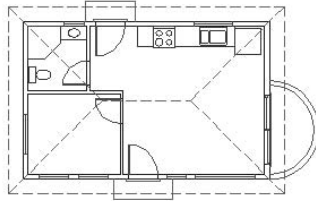

FIGURE 8.3 : The floor plan with the groundline
1. Check the status bar to make sure that Polar, Osnap, and Model are in the on position while the other buttons are off. Draw a horizontal groundline across the bottom of the screen using the Line command. Make sure the line extends on the left to a few feet beyond a point directly below the outside edge of the roof, and on the right to a few feet beyond a point directly below the right edge of the balcony (see Figure 8.3).